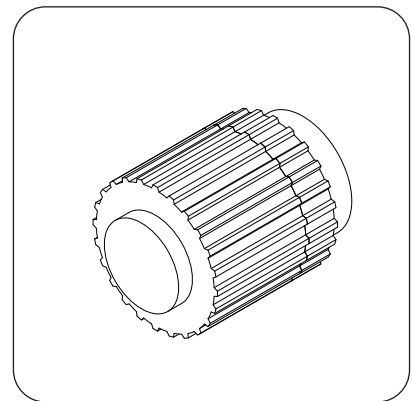
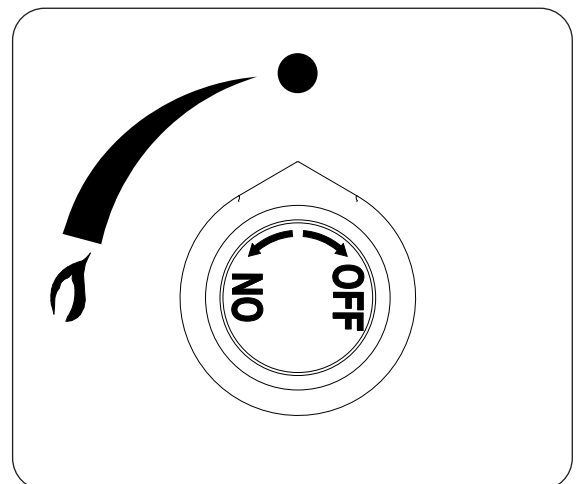

Fig. 45-1 Igniter button detail
Fig. 45-2 Control knob detail
2. Locate the control panel on the side of the unit (refer to the IDENTIFICATION PARTS LIST if needed), and identify the igniter button (Fig. 45-1) and gas control knob (Fig. 45-2). Ensure the gas control knob is in the OFF position before beginning the lighting sequence.
To extinguish your gas burner, turn the gas control knob clockwise to the **OFF** position (see Fig. 45-2). Be sure the control knob is turned fully off to avoid any gas leakage.